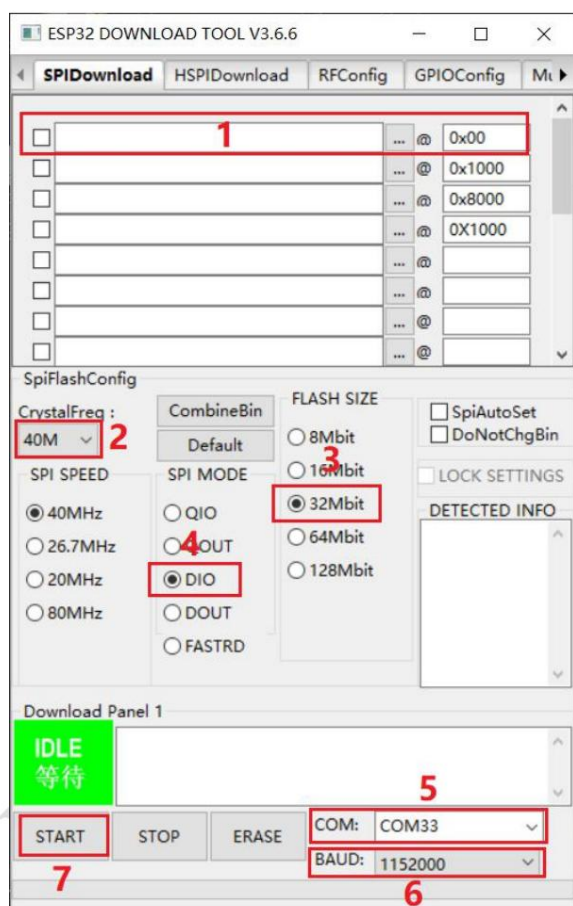

Fig.4
2. As shown in Fig. 4: Select the firmware path at mark 1, and then fill in the burning address, usually 0X00. Note that this checkbox must be checked; Set the crystal frequency to be 40MHz at mark 2; Select 32Mbit for Flash size at mark 3; Select DIO for SPI MODE at mark 4; Select the COM port number recognized by the computer at mark 5; Select the baud rate at mark 6 (the higher the value is, the faster the firmware will be downloaded. Max. 1152000bps).